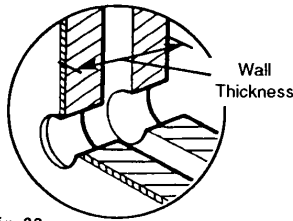

Fig. 38
2. Measure the thickness of the wall from the inside. This will be known as Wall Thickness (Fig 38).